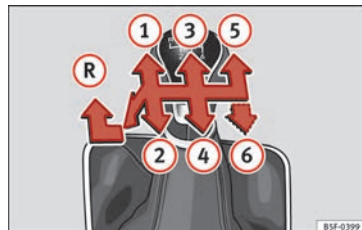

Fig. 56 Gear shift pattern of a 5 or 6-speed manual gearbox.
The position of the gears is indicated on the gearbox lever » **Fig. 56**.
- With the gearbox lever in neutral, push it downwards, move it to the left as far as it will go and then forwards to select reverse » **Fig. 56 (R)**.